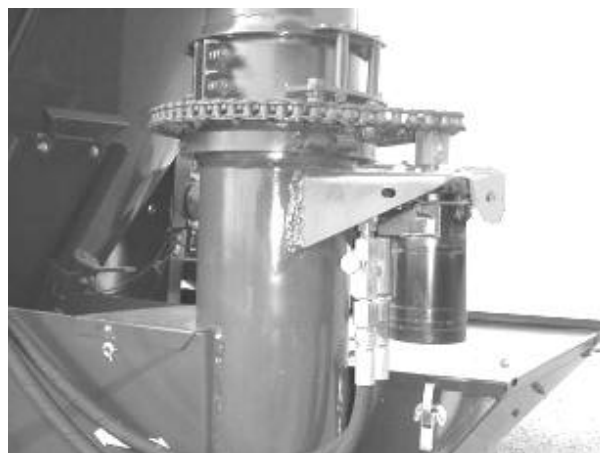

Figure 53 - Hydraulic Swing Adjustment (Shields Removed For Clarity).
If any problem is encountered with the hydraulic swing adjustment drive, adjust and/or check as follows: (See Figure 53.)
4. Adjust the spring tension to make sure the auger will slip if it hits something solid. (See Figure 53.) If you fail to check the auger and the auger does not slip, damage to the discharge could occur.